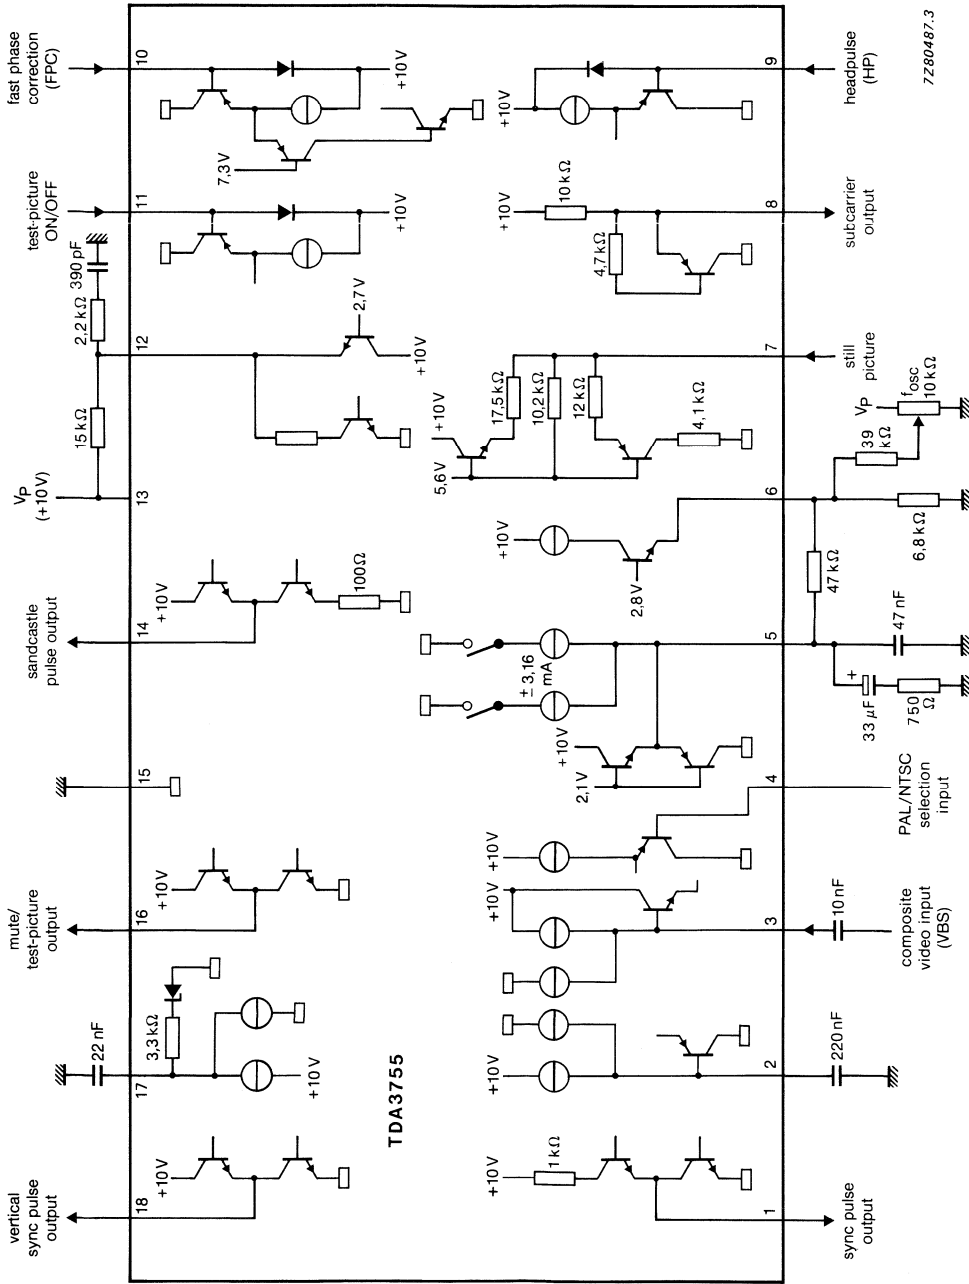

Fig. 4 Application circuit diagram.
$V_P = 10\text{ V}$ ;  $T_{\text{amb}} = 25\text{ }^\circ\text{C}$ ; measured in Fig. 4; unless otherwise specified
10. The timing of the upper part of the sandcastle pulse is determined by the components connected to pin 12 (Fig. 4) and is independent of supply voltage variations.